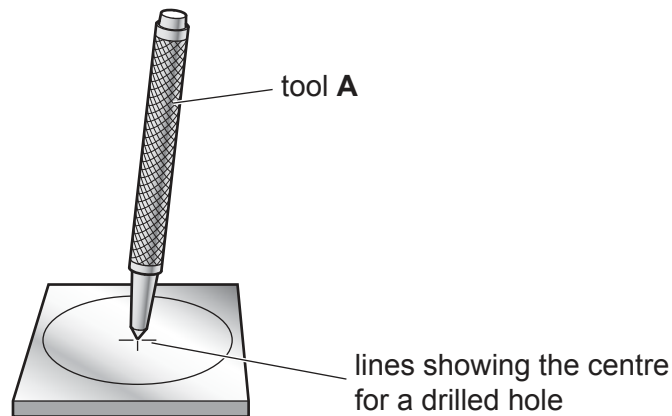

Fig. 6.1
- 6 Fig. 6.1 shows the centre for a drilled hole marked out on 6 mm thick metal.